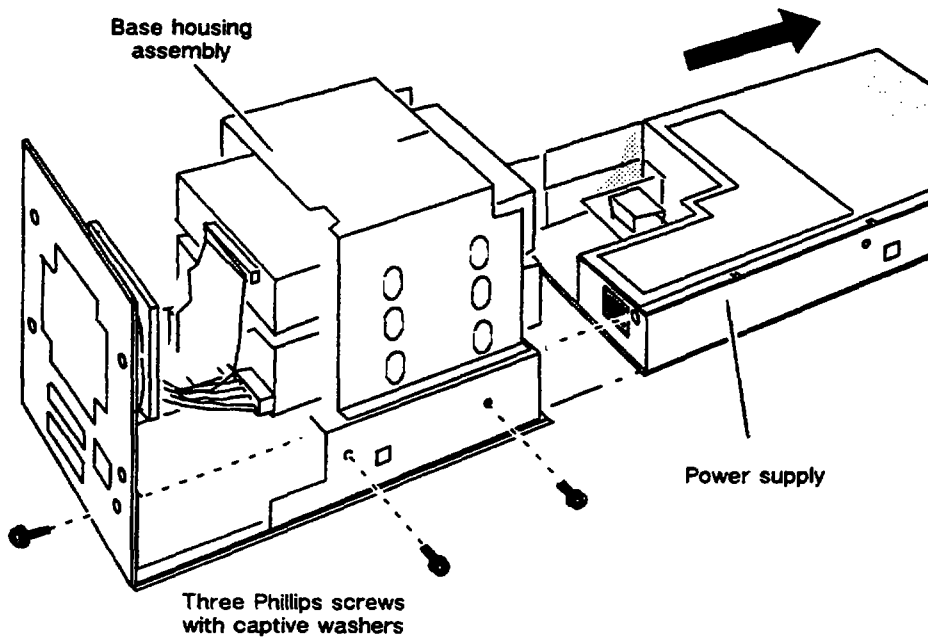

Figure 4-15 Removing the Power Supply
5. Remove the three Phillips screws and washers that hold the power supply in the base housing assembly, and slide the power supply out of the base housing assembly, as shown in Figure 4-15.